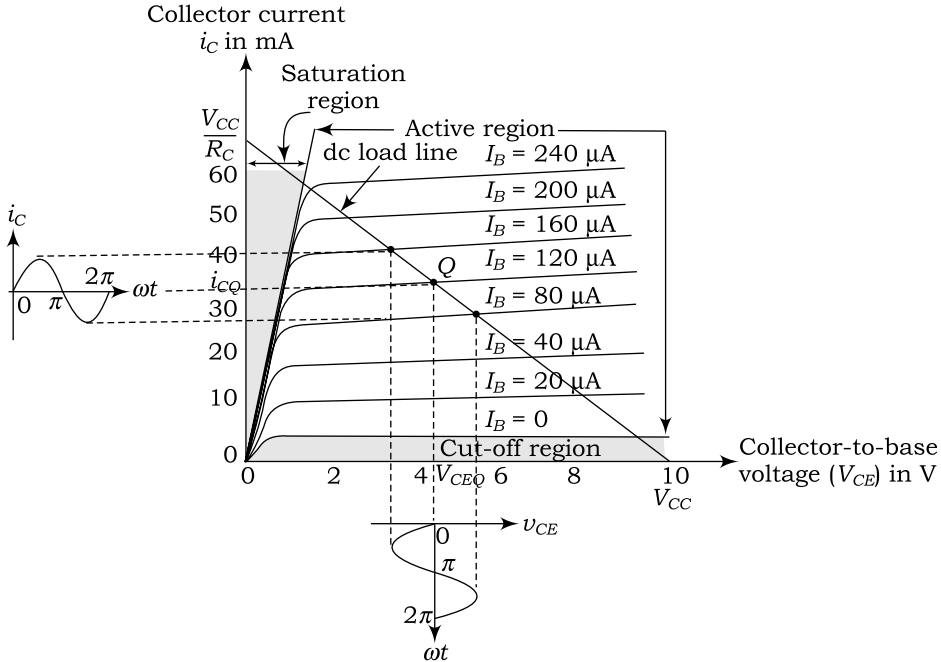
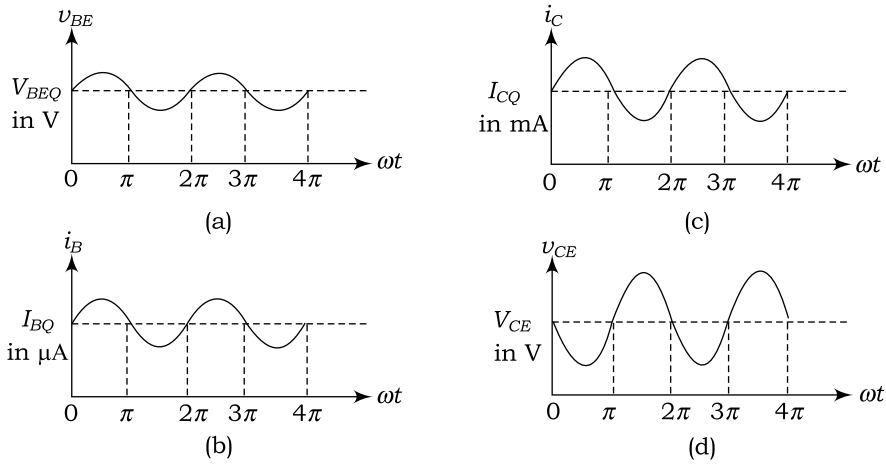

Fig. 3.7 Common-emitter characteristics, dc load line, collector current and collector-emitter voltage
Fig. 3.8 (a) Base emitter voltage v_{BE} (b) Base current i_B (c) Collector current i_C (d) Collector-emitter voltage v_{CE}
The common-emitter characteristics of bipolar junction transistor, dc load line and quiescent (Q) operating point are depicted in Fig. 3.7. Due to sinusoidal input voltage v_i , a time-varying base current flows through base of BJT. Then time-varying base current generates an ac collector current which is superimposed on the quiescent collector current I_{CQ} . Subsequently, voltage across R_C is ac and collector emitter voltage is also ac. Figure 3.8 shows the base-emitter voltage v_{BE} , base current i_B , collector current i_C and collector-emitter voltage v_{CE} .
It is clear from Fig. 3.8 that a small voltage change at the base generates a large voltage change at the collector and the circuit operates as amplifier. The amplitude of ac collector-emitter voltage, i.e., output voltage is larger than the sinusoidal input voltage. The voltage gain of amplifier can be expressed as